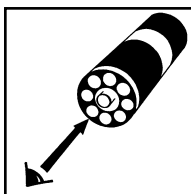

Figure 3
- a. Place the VACUette ampoule, flat end downward into the center of the low range comparator. Direct the top of the comparator up toward a bright source of light while viewing from the bottom. Rotate the comparator until the color standard below the ampoule shows the closest match (fig 3).